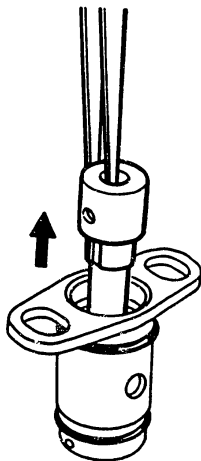

Fig. 37 Removing the plunger barrel
16. Remove the plunger barrel from the sleeve flange and place it in clean fuel oil with the previously removed plunger. (Figure 37)
2. After washing the delivery valve assembly in clean fuel oil, hold your thumb on the bottom of the delivery valve's body as shown in Figure 37. Then, press the delivery valve lightly with your finger. If the delivery valve springs back when you release your finger, the condition of the delivery valve is considered satisfactory. If the valve does not spring back, the piston is worn and the delivery valve assembly must be replaced.